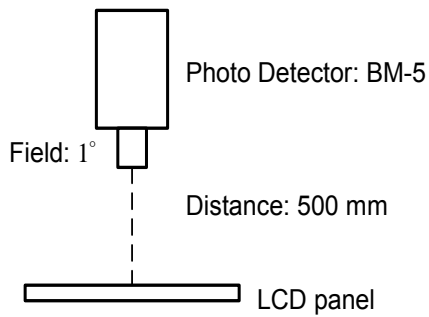

Fig 6.1
- In the dark room less than 100lx, the equipment has been set for the measurements as shown in Fig 6.1 and Fig 6.3.